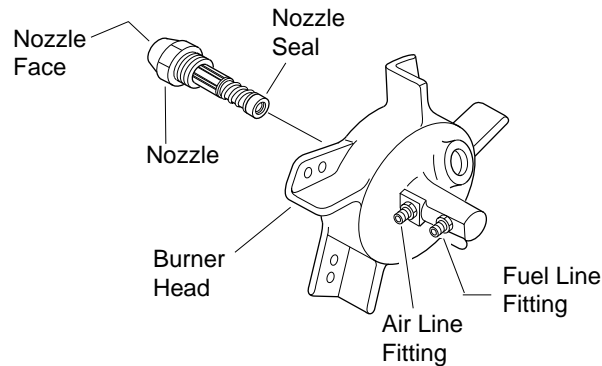

Figure 26 - Removing Nozzle, 70/100/110/150,000 BTU/Hr Models
6. Remove three (3) screws using 5/16" nut-driver and remove burner head from combustion chamber.
8. Carefully remove nozzle from burner head using 5/8" socket wrench (see Figure 26).